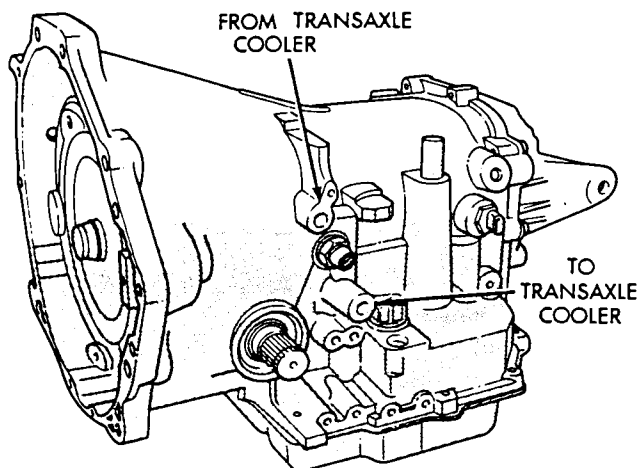

Fig. 8 Cooler Line Identification
- (1) Disconnect the cooler lines at the transaxle.
- (2) Using a hand suction gun filled with mineral spirits, reverse flush the cooler. This is done by forcing mineral spirits into the **From Cooler** line of the cooler (Fig. 8). Catch the exiting spirits from the **To Cooler** line. Observe for the presence of debris in the exiting fluid. Continue until fluid exiting is clear and free from debris.